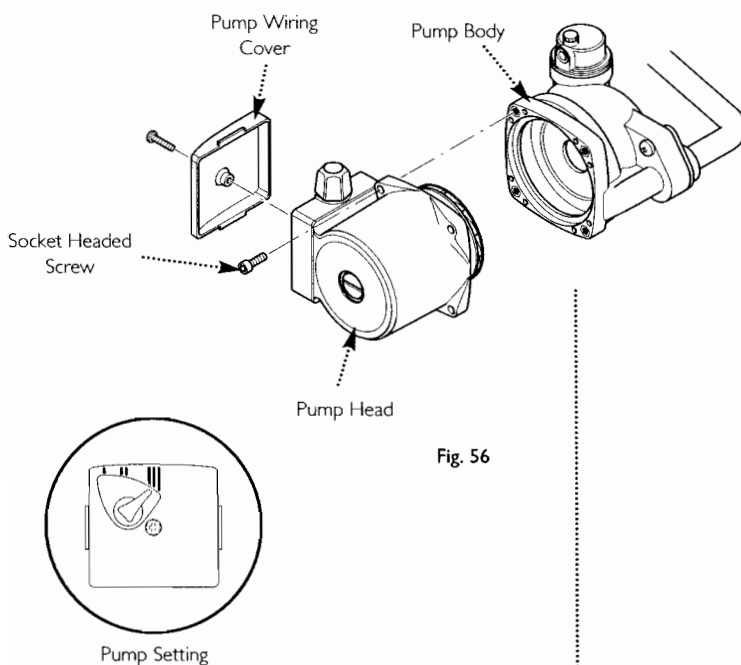

Fig. 57
3. A standard replacement Grundfos I5-60 head can now be fitted. Connect the pump wiring to the new head. **The pump speed must be set to 3 (Fig. 57).**